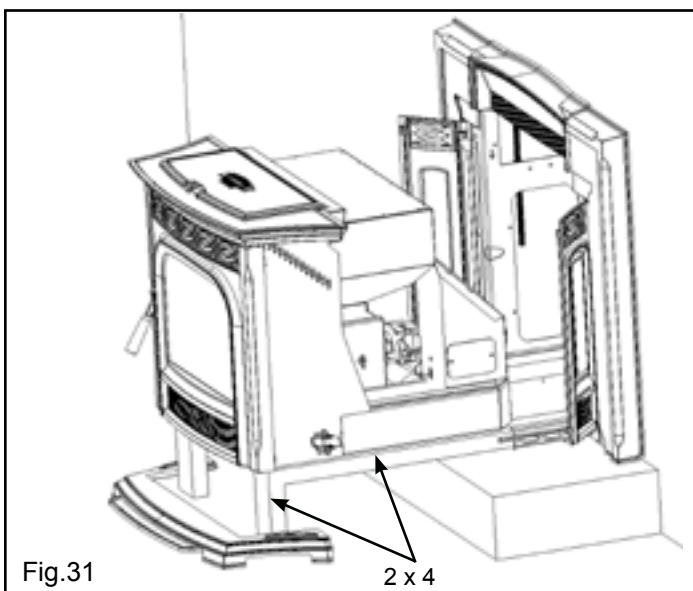

Fig.31
16. Place the stove body on the mounting shell gasketed rails and insert the body into the opening far enough that it can't tip out. Note: A service rail kit (Part #1-00-08007), or a pair of 2 x 4's supported in front of the hearth will make this job easier. See Fig. 31.